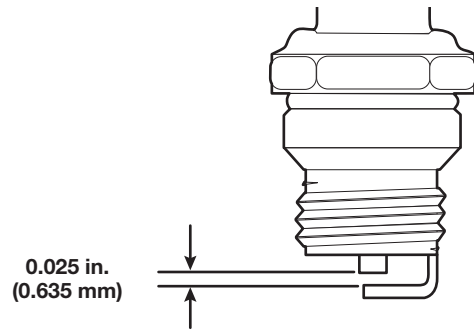

Fig. 32
4. Use a feeler gauge to set the air gap at **0.025 in. (0.635 mm)** (Fig. 32).